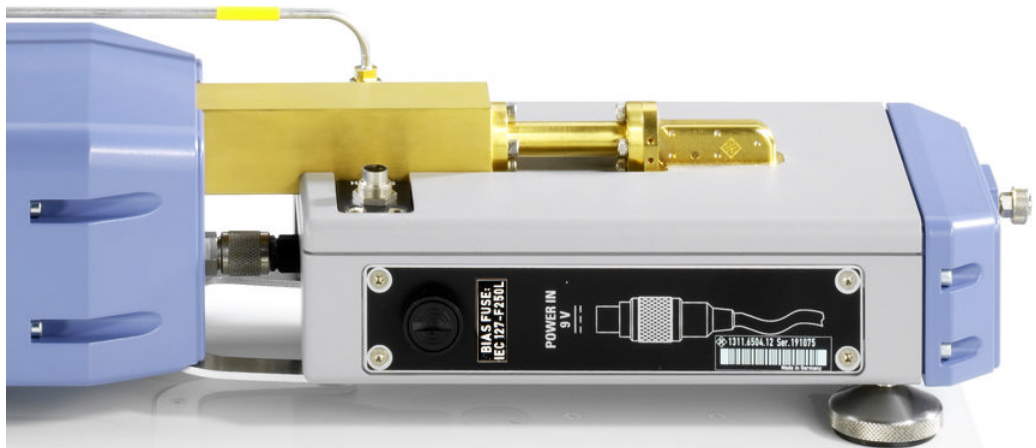

Fig. 2-1: Connection between diplexer (right) and frequency converter (left)
- The power connection between the diplexer and the converter must be in place (see figure 2-1).
The standby toggle switch connects (ready state) or disconnects (standby state) the internal modules of the frequency converter from the power supply. This includes the output connector for the power supply connection to the diplexer (see figure 2-1).